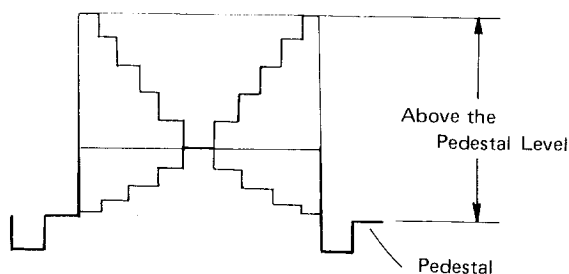

Figure 41.
- Adjust iris control (VR38) so that the output at TP 3 is 1.0 Vp-p. (See Fig. 41)